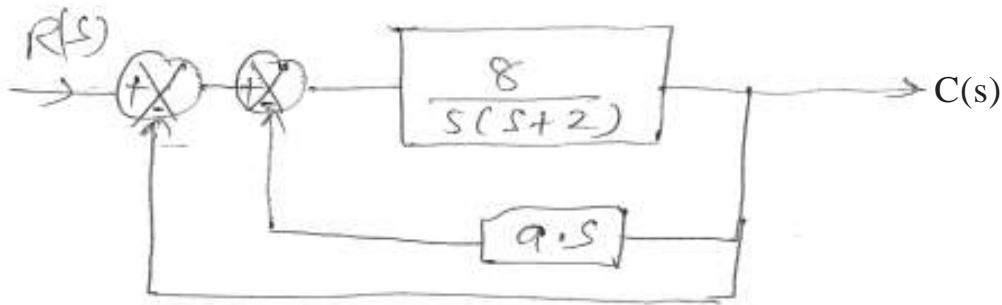

Fig. 4
- 4. a) The system given in fig. 4 with unity feedback control system with a minor feedback loop. Determine the derivative constant “a” which increases the damping ratio to 0.7. What is the steady state response to unit step input with the setting of “a”. 8